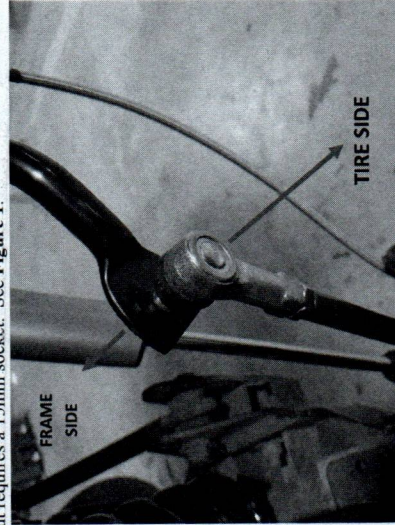

Figure 1. Correct sway bar link rod end orientation.
3. Install the sway bar link rod ends into the sway bar, with the nuts towards the frame. Tighten to 60 lb-ft. Use an open end 14mm wrench to hold the flats on the stud next to the dust boot in order to prevent the stud from spinning. Make sure the zerk fitting on the sway bar link faces the rear of the Jeep. The nut requires a 15mm socket. See Figure 1.